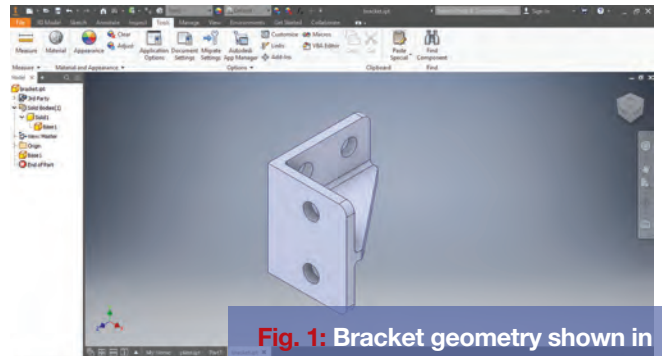

Fig. 1: Bracket geometry shown in Autodesk Inventor user interface. Images courtesy of Tony Abbey.
Fig. 1 shows the Autodesk Inventor user interface (UI), with the bracket geometry shown. The layout is traditional, with a tree view, graphics area and a main menu running horizontally across the top. Autodesk refers to this as the ribbon. Selecting a tab on the ribbon opens a set of commands and drop-down menus. Fig. 1 shows the Tools options selected.